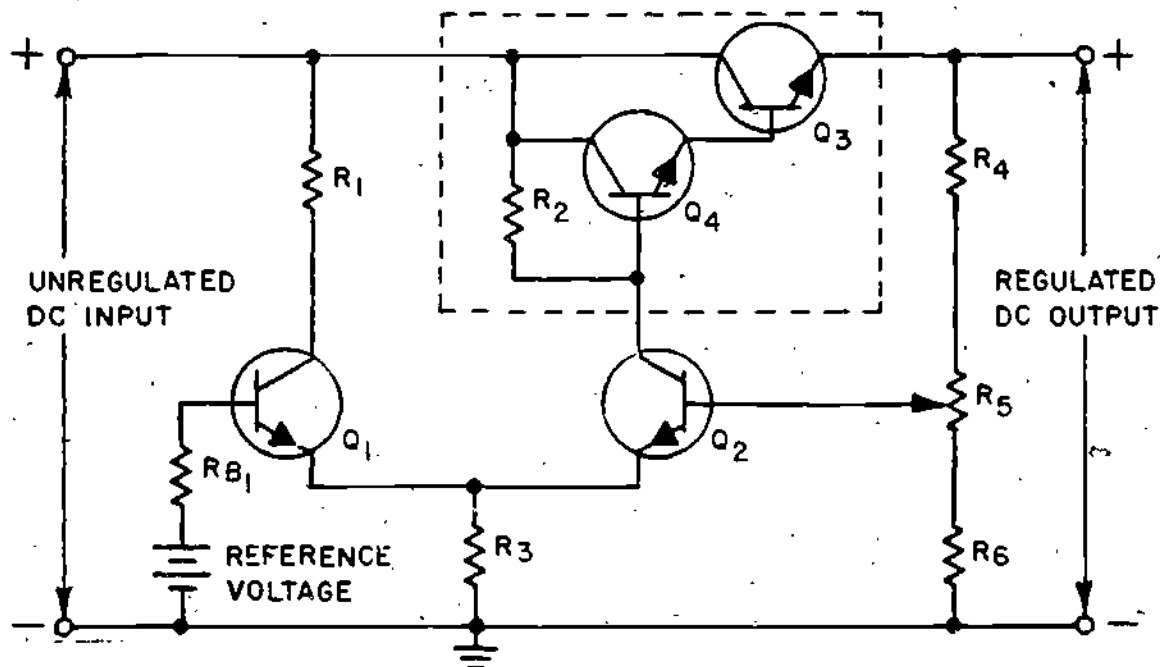

FIGURE 25
33. THIS IS A TEST FRAME, REFER TO THE SCHEMATIC SHOWN IN FIGURE 25 WHEN ANSWERING THE QUESTIONS. AFTER YOU ANSWER THE QUESTIONS COMPARE YOUR ANSWERS WITH THE CORRECT ANSWERS ON THE TOP OF THE PAGE FOLLOWING THE QUESTIONS.